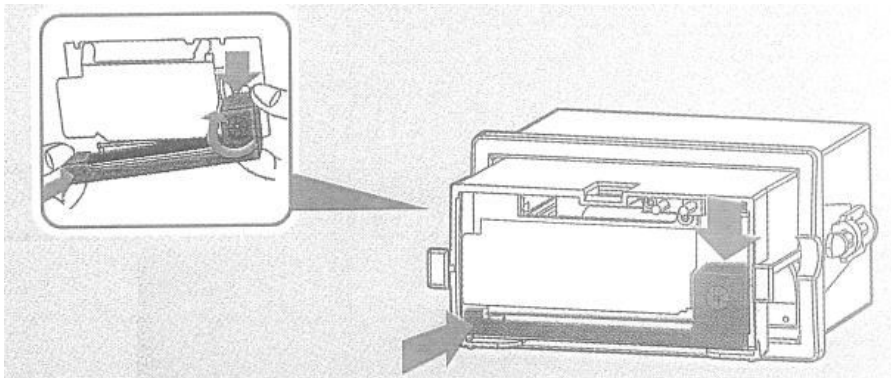

Figure 84
- C. Take out the ribbon as show in Figure 84